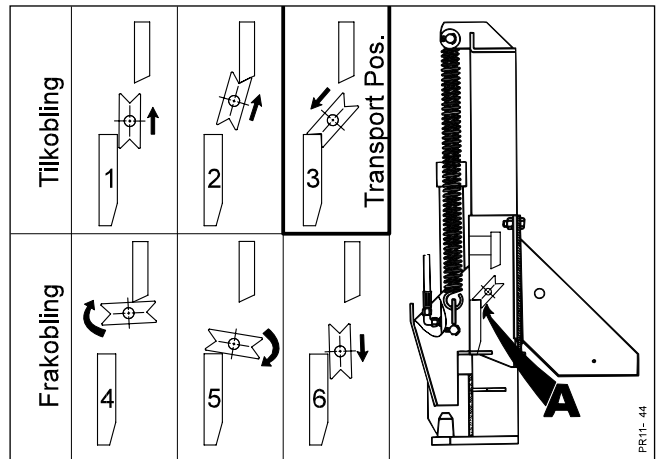

Fig. 3-4
**Fig. 3-4** Lift the trailer with the hydraulic cylinder **1** until the pawl **A** is in mesh **2**. Pull the hydraulic handle shortly backwards so that the weight of the trailer rests on the pawl **A** and not on the hydraulic cylinder, and thus locks the hitch system **3**. When disconnecting the trailer, lift the hitch hook **4** with the hydraulic cylinder and the pawl **A** is automatically disengaged **5**. Then the hitch hook must be lowered by relieving the pressure of the cylinder and the weight of the trailer and the springs pull the hook down **6**, and the trailer is released.
**IMPORTANT:** Pos. 3 on fig. 3-4 is the only allowed position of the hitch for trailer transport, i.e. never drive with pressure in the hydraulic hoses.